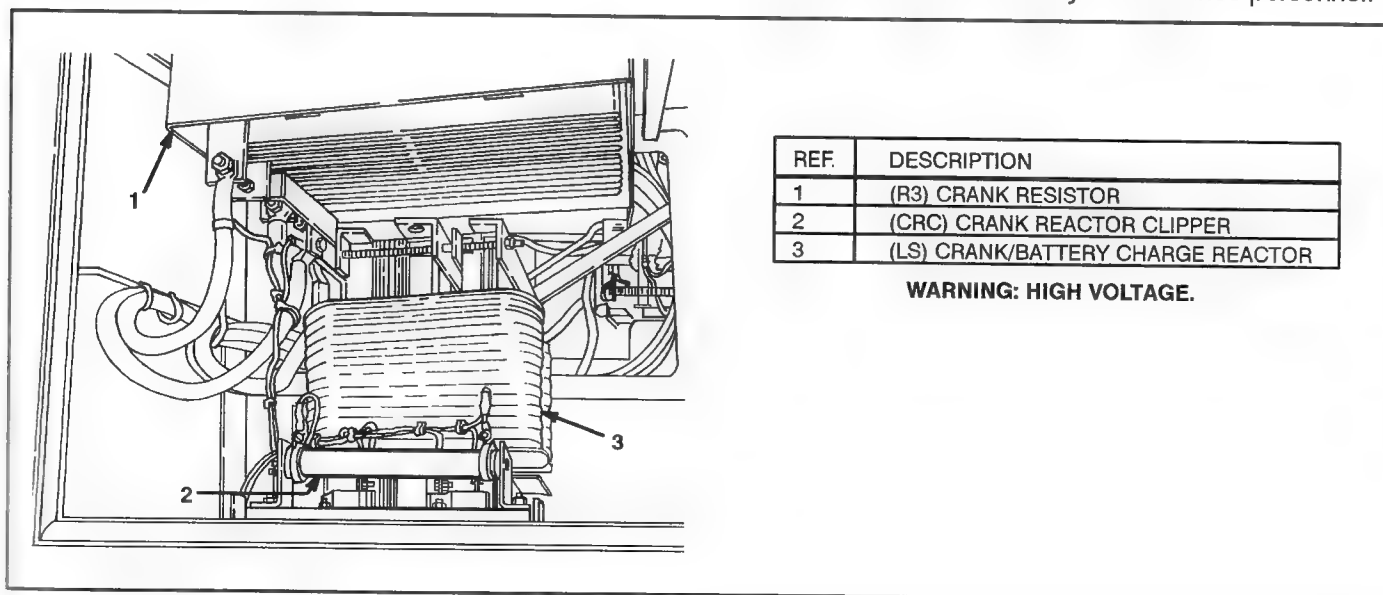

FIG. 27. CONTROL AREA 8 – LOCATED ON THE RIGHT SIDE OF THE LOCOMOTIVE ADJACENT TO THE AIR BRAKE COMPARTMENT. E-31359B.
Located on the right (A) side of the locomotive adjacent to the air brake compartment (Fig. 27).